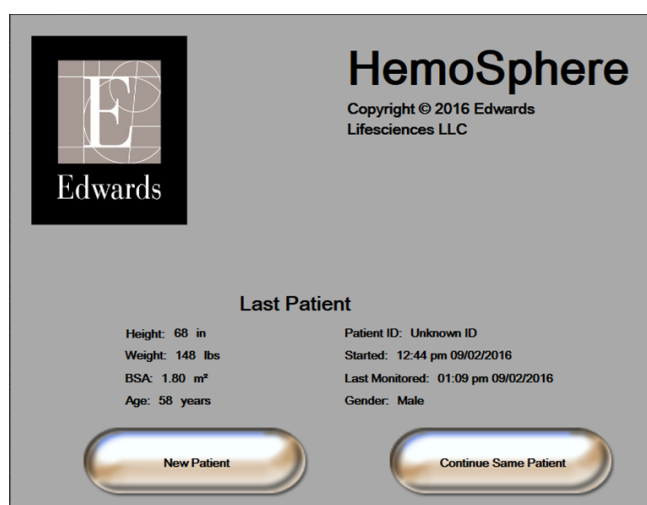

Figure 6-1 New or continuing patient screen
After the system is turned on, the user has the option to either continue monitoring the last patient or to start monitoring a new patient. See figure 6-1 below.
- 1 After turning on the monitor, the new or continuing patient screen appears (figure 6-1). Touch **New Patient** and continue to step 6.
The **CO/Pressure Averaging Time** selection affects the averaging time and display update rate of CO and other additional parameters. See figure 6-1 below for details of which parameter averaging and update rates are affected based on menu selection.